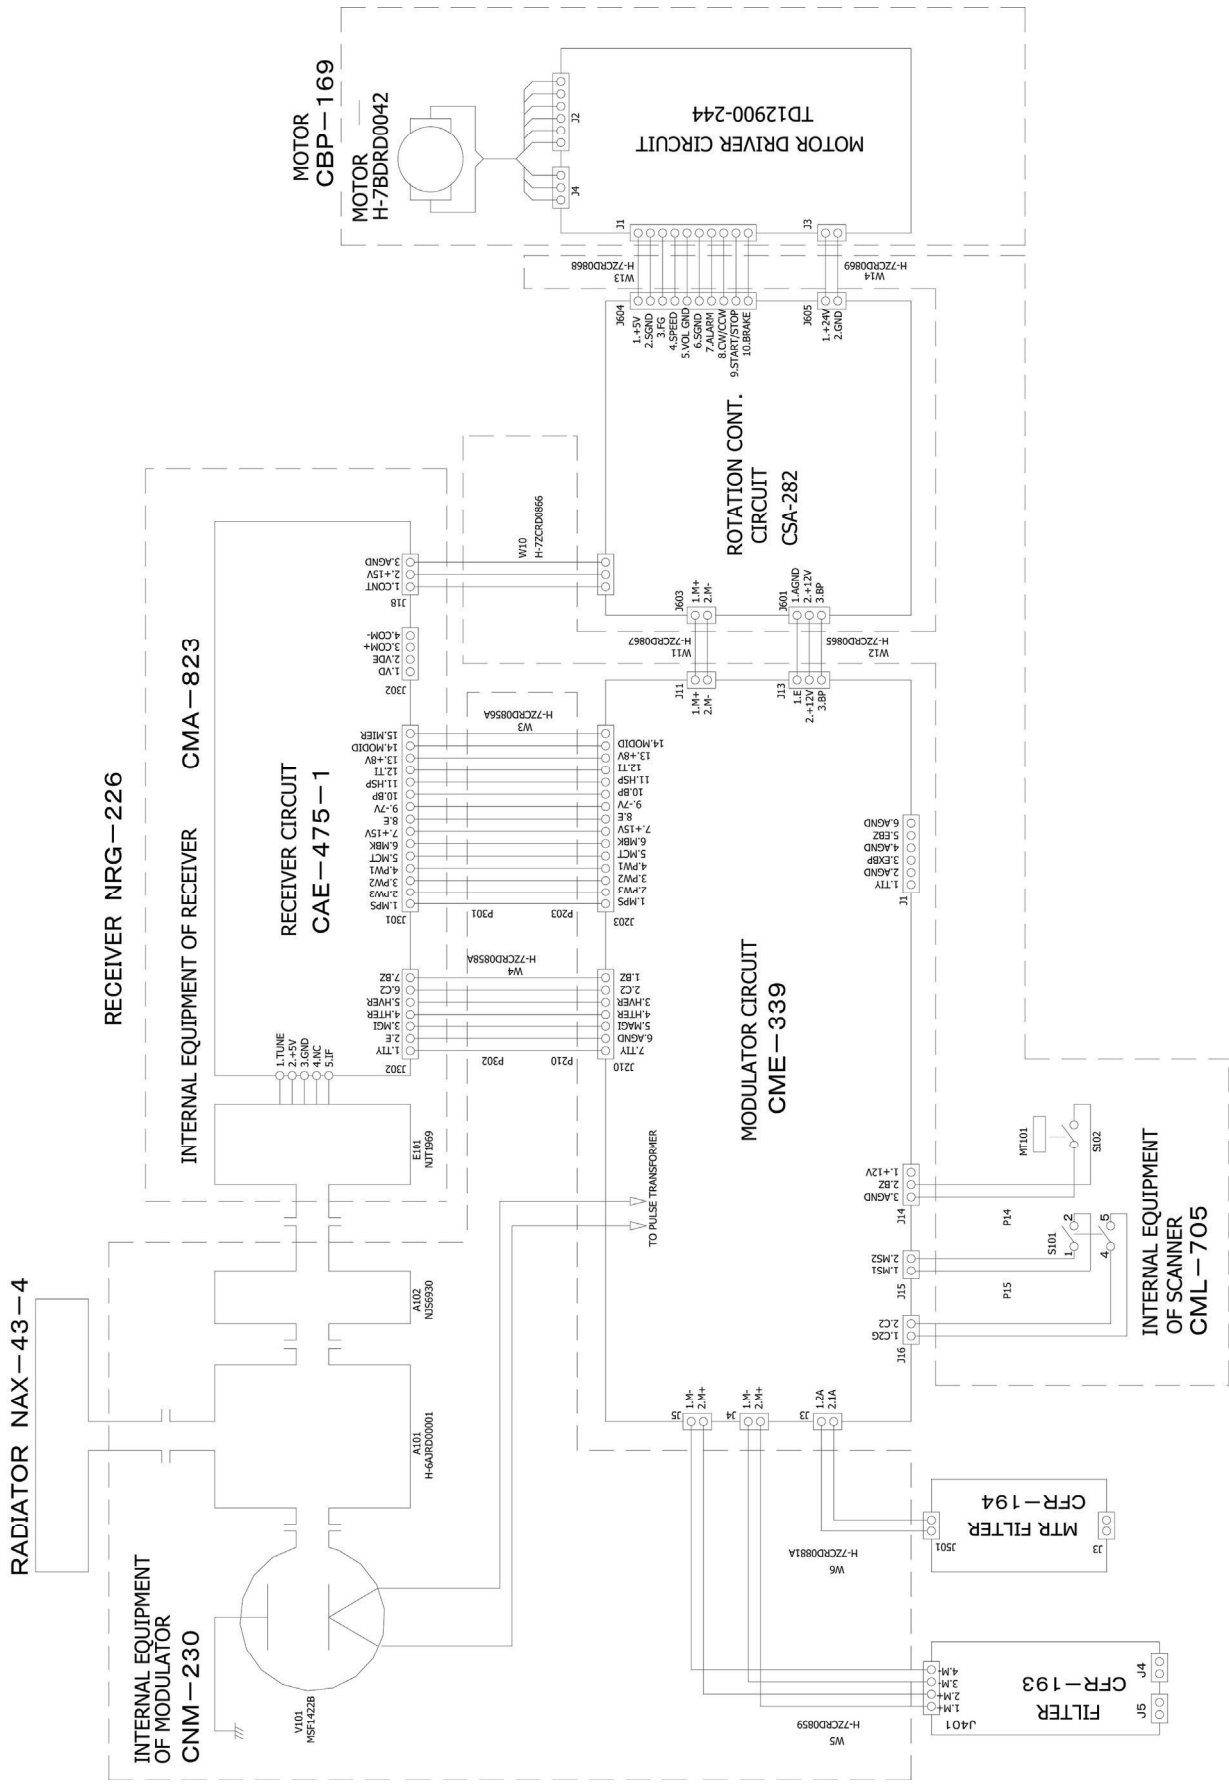

Figure 9 NKE-2062HS Scanner Unit Interconnection Diagram
- FIGURE 9 NKE-2062HS SCANNER UNIT INTERCONNECTION DIAGRAM**